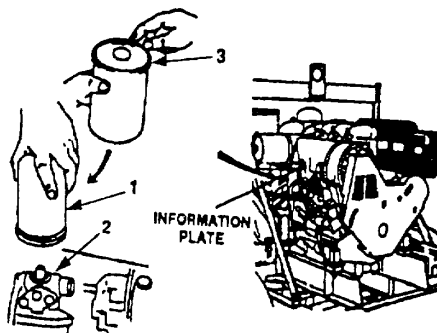

Figure 4-28. Fuel Filter Maintenance (All except Model 350 PAFN).
4.10.18.1 Removal. Refer to Figure 4-28 and proceed as follows:**WARNING**